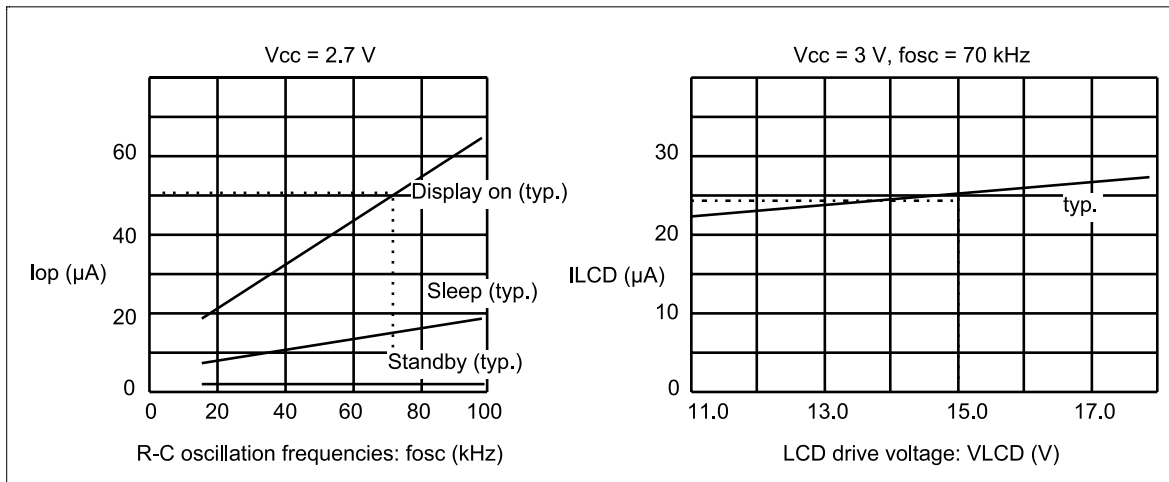

Figure 60 Relationship between the Operation Frequency and Current Consumption
- The following shows the relationship between the operation frequency (fosc) and current consumption (Icc) (figure 60).